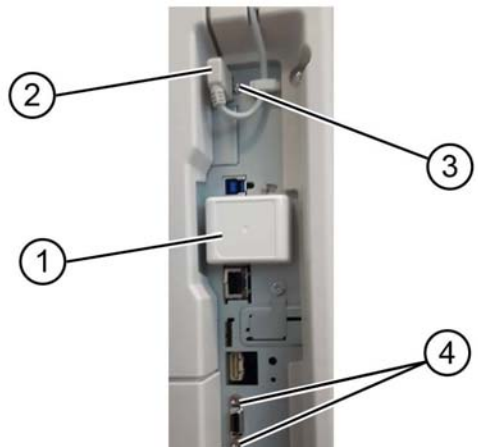

Figure 11 ESS PWB side connectors
12. Disconnect the connectors and fittings from side of ESS PWB, **Figure 11**.
- a. If fitted, remove the wireless dongle (1).
- b. Disconnect the USB cable (2).
- c. Remove screw for the USB connector (3).
- d. Remove screws for the D-type connector (4).